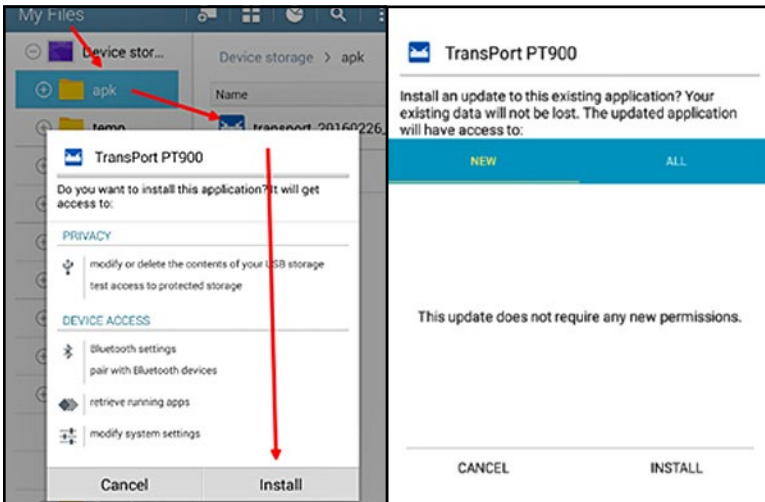

Figure 57: Initial (Left) and Update (Right) Installation Screens
3. Click on the APK file, and the Android operating system will verify the checksum and signature for the file. Depending on whether this is an initial installation or an update installation, you will see one of the screens shown in Figure 57 below. Click INSTALL to begin the installation.